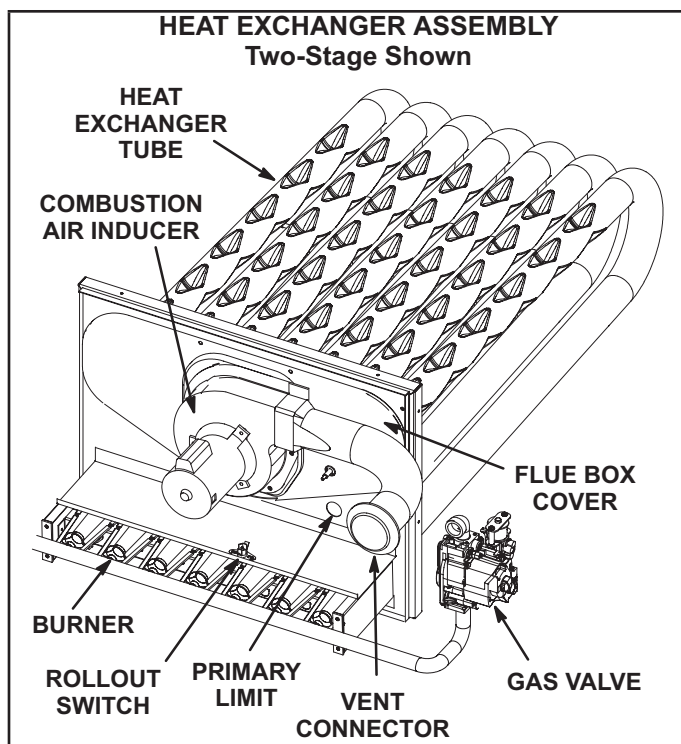

FIGURE 34
Limit controls are factory-set and are not adjustable. The primary limit is located to the right of the combustion air inducer. See FIGURE 34.
- 4 - Remove and retain screws securing combustion air inducer to flue box. Remove vent connector. See FIGURE 34.